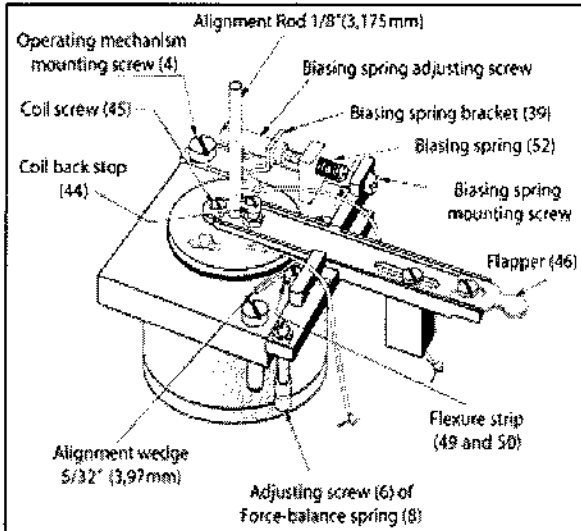

Figure 10 - Beam alignment
4.6 Beam alignment (figure 10)
- Tighten two lower screws (42) of inner flexure strip to the beam as well as two lower screws of outer flexure strip to the magnet.
- Replace the entire operating mechanism in case. Position the biasing spring bracket (39) in place and fasten it with two screws (4).
- Exert downward pressure on the beam between wedge 5/32" high and nozzle. Tighten four remaining screws of flexure strips (42).
- Tighten the coil screw (45) and remove the alignment rod and wedge.
- Adjust coil stop screw (44) so that flapper travel in front of the nozzle inlet will be equal to 0.8 mm (1/32") approximately. Tighten the locknut of the stop (43).
- Engage force-balance spring (8) into its adjusting screw (6) and reattach biasing spring (52) to the beam with the screw.